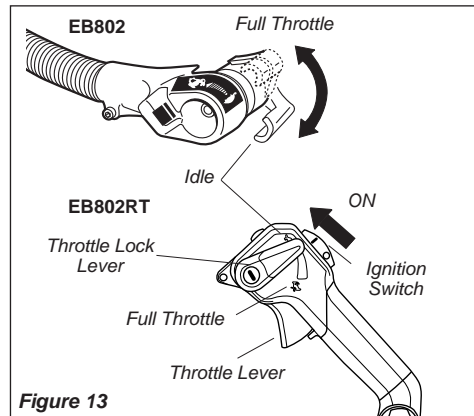

Figure 13
4. Move the throttle lever to idle. **RT Model:** Slide the ignition switch to the "I" (ON) position, then move throttle lock lever down. See Figure 13.